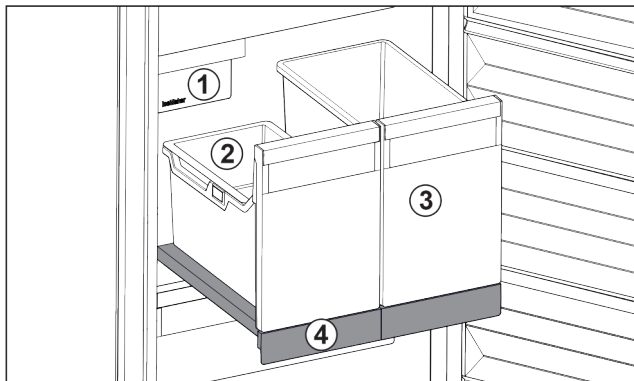

Fig. 122 Pull-out board with IceTower
- (1) IceMaker
- (2) Hang-on tray for ice cubes
- (3) Container for pizza or alcoholic beverages, for example
- (4) Pull-out board
There are two high (IceTower) containers on the pull-out board. Ice cubes from the IceMaker are collected and stored in the Fig. 122 (2) container. The container Fig. 122 (3) is suitable for storing tall foodstuffs or beverages such as pizzas or alcoholic drinks.